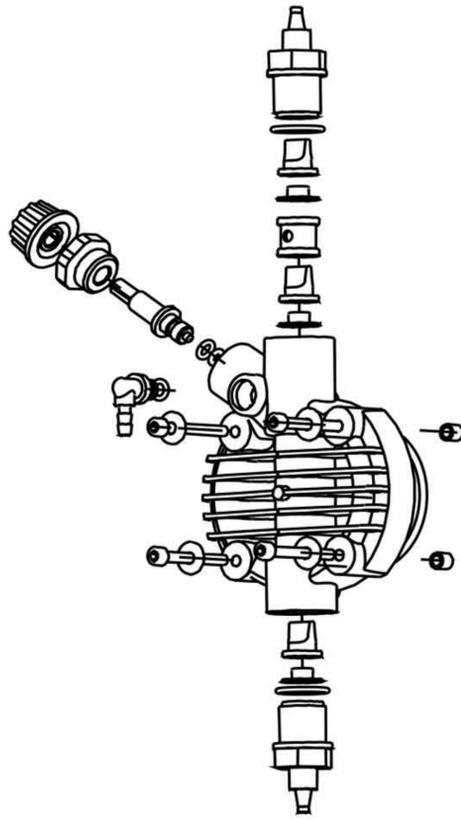

Fig. 10
3. Drain or flush all dosing liquid from the pump head. This operation can also be done with the pump disconnected from the plant by turning the pump upside-down for 15 to 30 seconds and without connecting the tubing to the nipples: if this operation is not possible, dismount and remount the pump head using the four mounting screws. (Fig. 10).
- the additive concentration in the pipework; a reduction of this concentration could be caused by the wearing of the valves, in which case they need to be replaced (Fig. 10) or by the clogging of the filter which then has to be cleaned as in point 3 here below.
This operation can also be done with the pump disconnected from the plant by turning the pump upside-down for 15 to 30 seconds and without connecting the hose to the nipples; if impossible, dismount and remount the pump head (Fig. 10) using the four mounting screws.
As the system is quite robust there are no apparent mechanical problems. Occasionally there might be a loss of liquid from the nipple because the tube nut has loosened, or more simply the discharge tubing has broken. Very rarely there may be losses caused by the breakage of the membrane, or by the membrane seals in which case they have to be replaced by disassembling the four screws of the pump head (fig. 10), when re-mounting the pump head ensure that the screws are replaced properly, along with “O” ring. After repair, the metering pump will need to be cleaned of additive residues which can damage the pump casing.
- a. Dismount the suction and discharge valves, clean them and replace, see position (fig. 10). Should the valves be swollen, check valves material against our chemical resistance compatibility chart and fit correct valves. Standard valves are Viton. Upon request ball check valve, can be supplied.